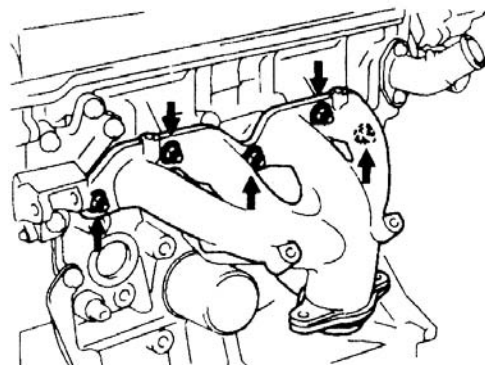

Figure 28
43. Detach exhaust manifold. See (Figure 28)